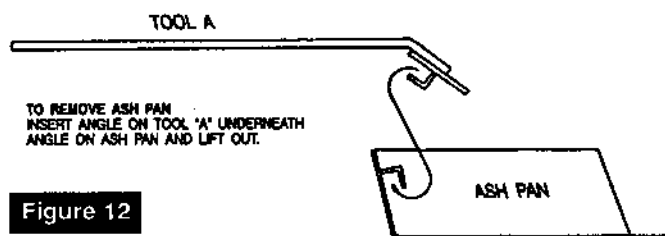

Figure 12
d. Use tool A to lift pan(s) and pull out carefully (see figure 12).